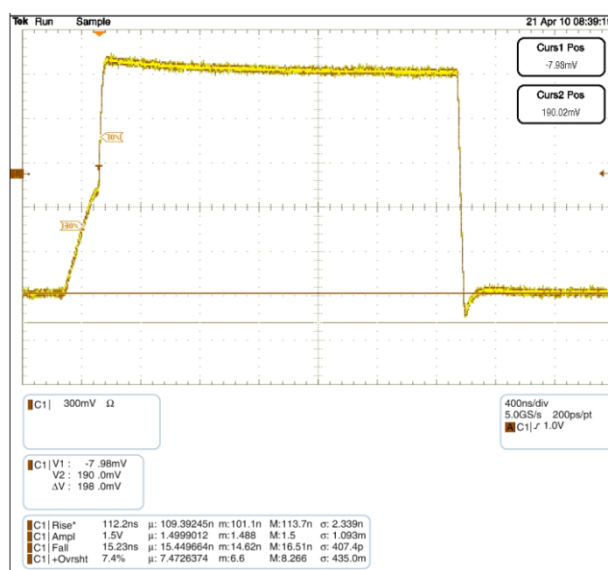

Figure 5. FXMA2102 Waveform C: 600 pF, RPU: 2.2 K
Due to I²C's open-drain topology, I²C masters and slaves are not push/pull drivers. Logic LOWs are "pulled down" (I_{sink}), while logic HIGHs are "let go" (3-state). For example, when the master lets go of SCL (SCL always comes from the master), the rise time of SCL is largely determined by the RC time constant, where $R = R_{PU}$ and C = the bus capacitance. If the FXMA2102 is attached to the master [on the A port] in this example, and there is a slave on the B port, the Npassgates act as a low resistive short between both ports until either of the port's $V_{CC}/2$ thresholds are reached. After the RC time constant has reached the $V_{CC}/2$ threshold of either port, the port's edge detector triggers both dynamic drivers to drive their respective ports in the LOW-to-HIGH (LH) direction, accelerating the rising edge. The resulting rise time resembles the scope shot in Figure 5. Effectively, two
The FXMA2102 dynamic drivers have enough current sourcing capability to drive a 400 pF capacitive bus. This is beneficial for instances when an I²C buffer / repeater is required. The I²C specification stipulates a maximum bus capacitance of 400 pF. If an I²C segment exceeds 400 pF, an I²C buffer / repeater is required to split the segment into two segments, each of which is less than 400 pF. Figure 5 is a scope shot of an FXMA2102 driving a lumped load of 600 pF. Notice the (30% – 70%) rise time is only 112 ns ($R_{PU} = 2.2$ K). This is well below the maximum edge rate of 300 ns. Not only does the FXMA2102 drive 400 pF, but it also provides excellent headroom below the I²C specification maximum edge rate of 300 ns.